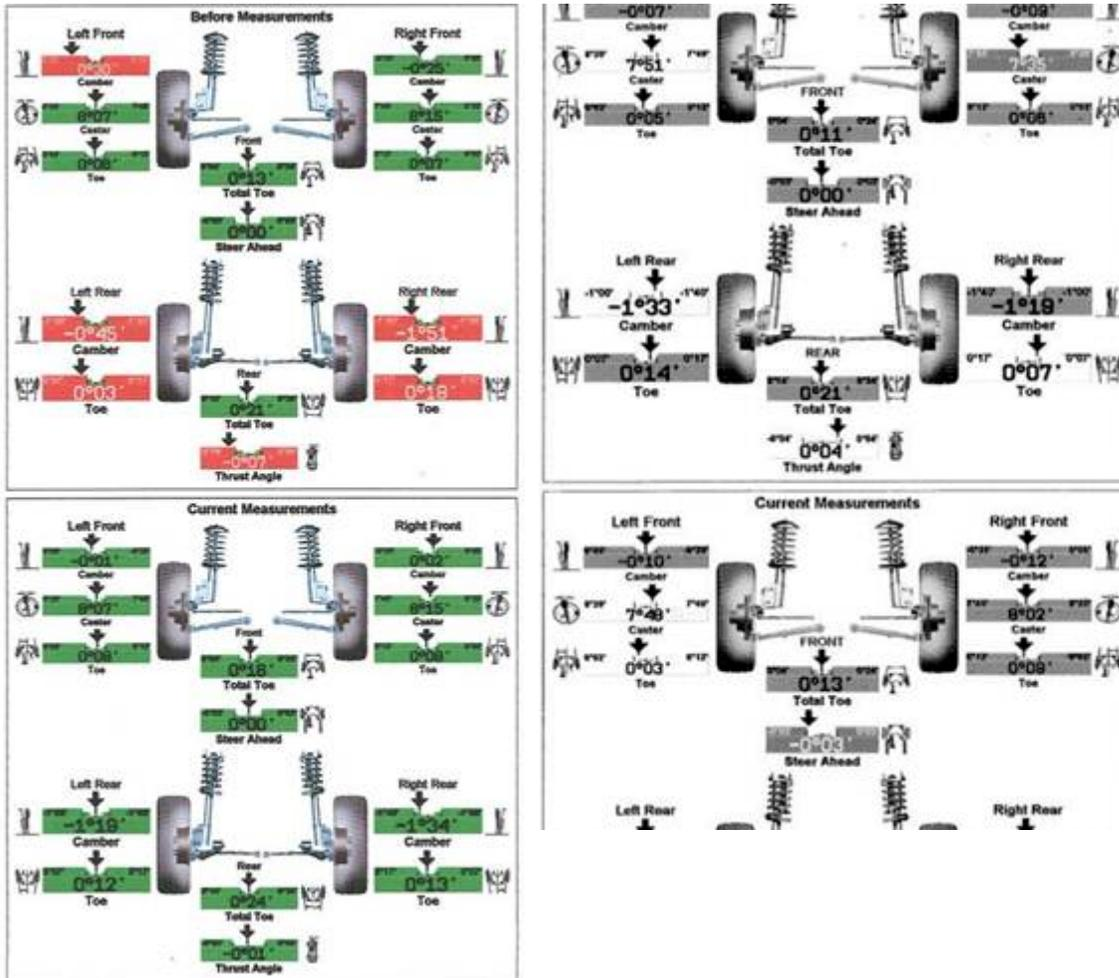
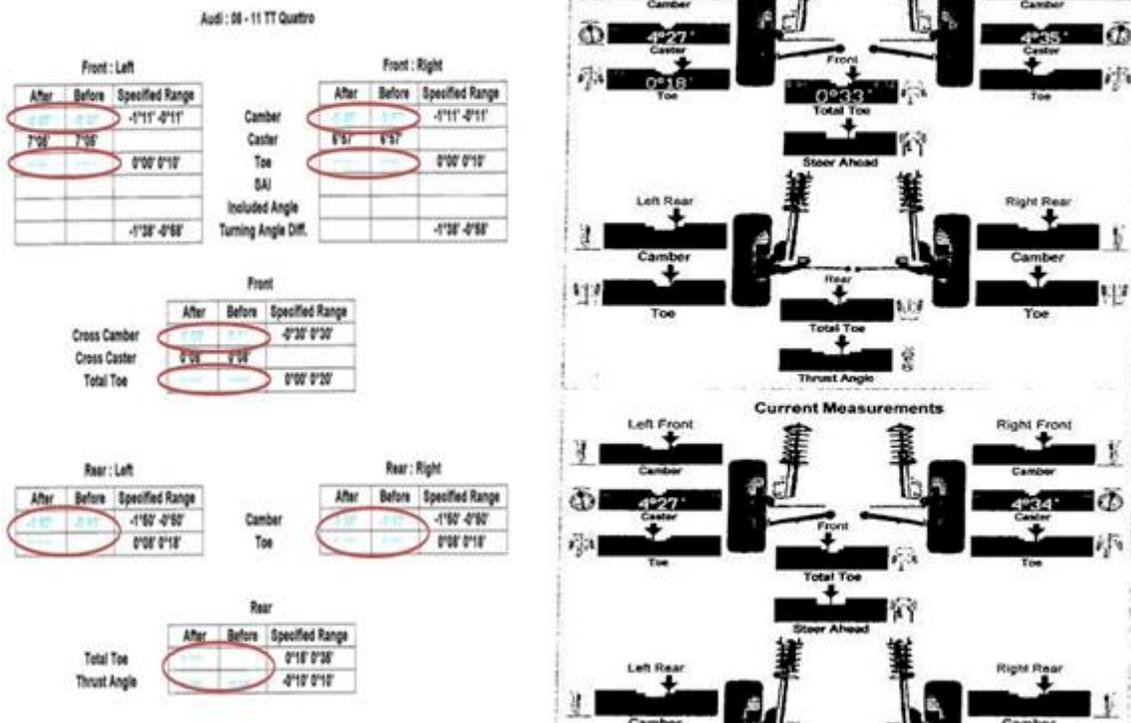

Figure 4. Examples of acceptable copies.
Figure 5. Examples of unacceptable copies.
- c. The before and after alignment measurements must be a scanned copy of the original in either PDF or JPEG format. Do *not* fax or send a photocopy of the documents. See the following examples of acceptable and unacceptable copies (Figure 4 and Figure 5).